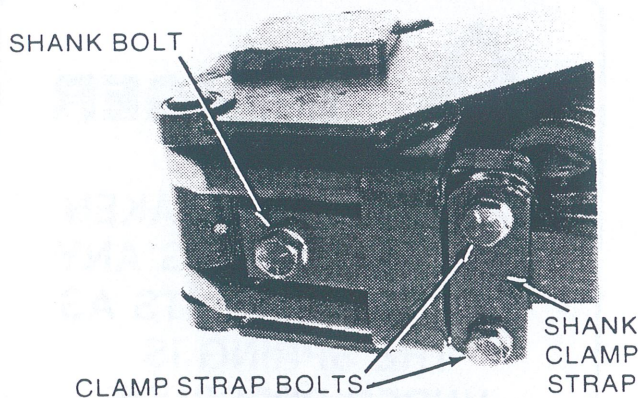

Figure 40
- (3) With shank in place, the Shank Bolt can be installed. Mount the shank clamp with two Clamp Strap Bolts. See Figure 40.